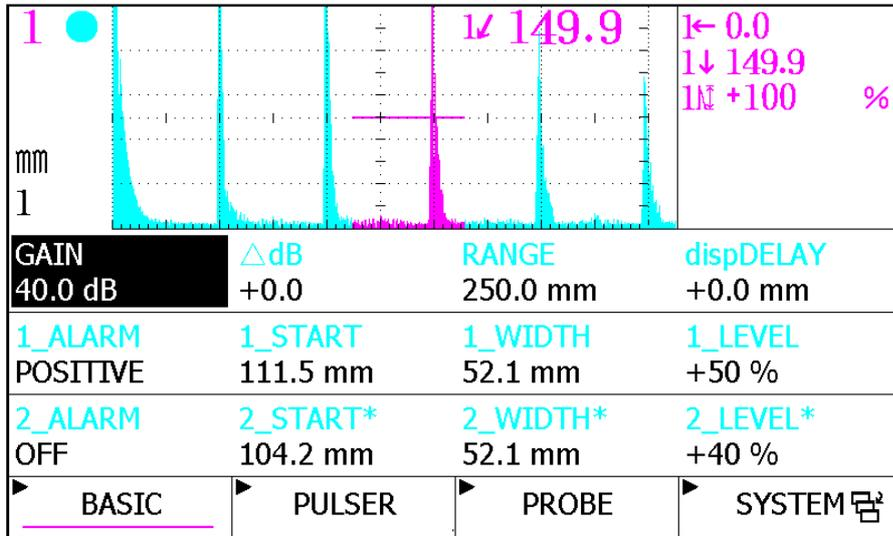

Figure 7 Setting the Parameters on the Half Screen
To set the different conditions required for flaw detection, press  to display the waveforms on the upper half and the parameters on the lower half of the screen (see figure 7). The A-scan wave form change can be seen during the adjustment.
- *If gate 1 is not displayed, press  to go to the 1-ALARM on the BASIC as shown in figure 7, and then select NEGATIVE or POSITIVE alarm. In this case, gate 1 is opened. On the other hand, if you select OFF on the 1- ALARM, gate 1 will be off and cannot be displayed on the screen. Gate 2 is the same as gate 1.*